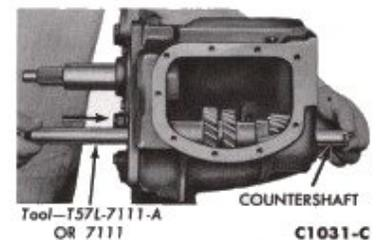

FIG. 12—Countershaft Removal
10. Working from the front of the case, use a drift to start the countershaft rearward. Insert the tool (dummy shaft) shown in Fig. 12 and push out the countershaft, allowing the countershaft (cluster) gear to settle to the bottom of the case. Remove the Woodruff key from the rear of the countershaft.